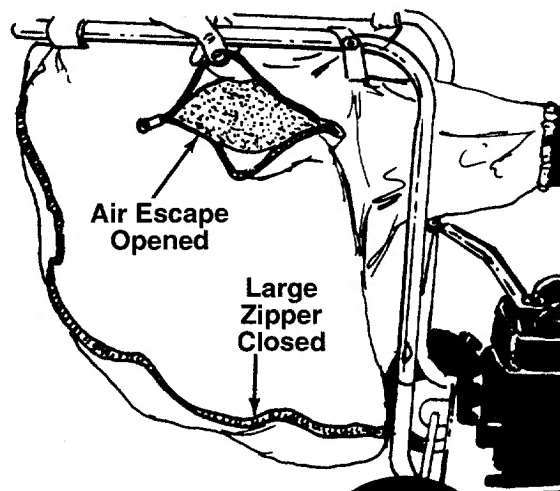

FIGURE 16.
**IMPORTANT:** The vacuum bag may have an air escape located on the upper right hand side. See figure 16. The air escape can be opened if the vacuum is operated in wet, sandy or muddy conditions.
The bag may be emptied using the large zipper as shown in figure 16. **Be certain the zipper is closed when operating the unit.**